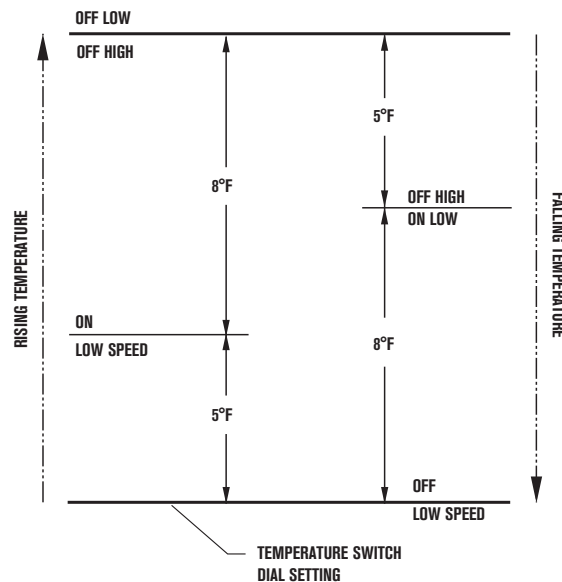

Figure 2
2. The temperature switch on two speed systems has a differential that is preset by the manufacturer. The temperature setting is all that needs to be checked on this system. Remember the differential is all above the temperature setting on the two stage switch. Refer to Figure 2 on page 10.
The differential is built into the switch such that the cut-out temperature will be the temperature you read on the dial. See Figure 2